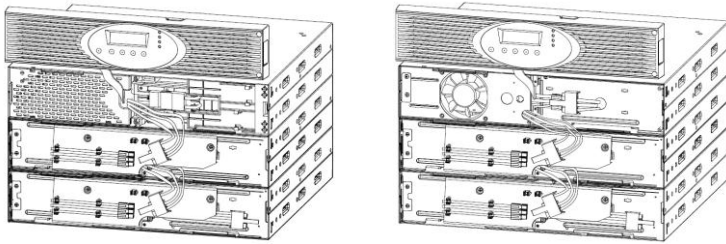

Figure 8: Typical installation of multiple battery modules
6. Stick the cable of the battery module into the battery connection of the UPS system as shown in Figure 8. Up to four batteries can be connected to the UPS system.